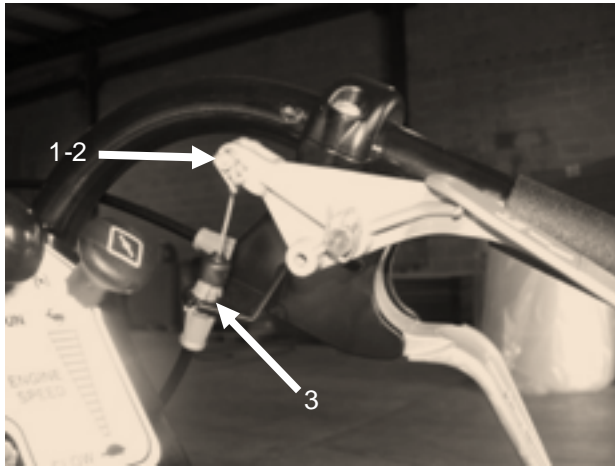

Figure 36
2. Remove clevis pin (10523) from reverse control lever (10421) **Figure 36**.
3. With a pair of pliers, collapse both tabs and pull cable from perch (10420) Refer to **Figure 36**.